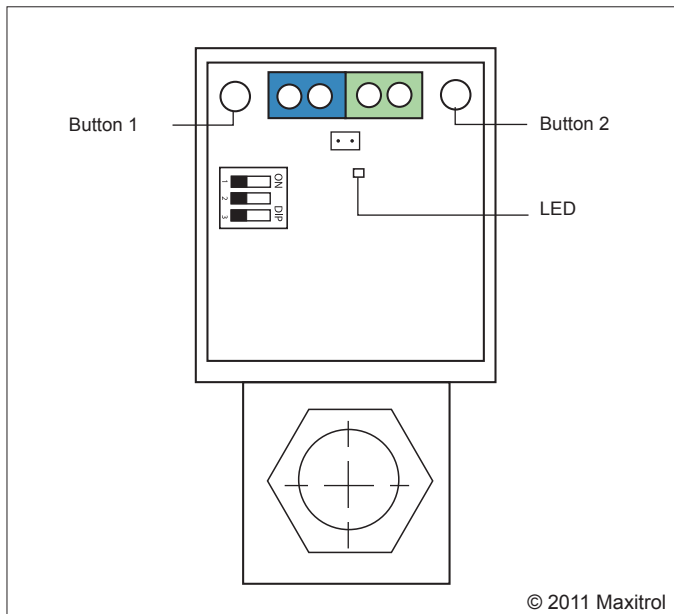

Figure 4: EXA STAR Modulating Valve Series Adjustment Controls
The valve has two (2) buttons and a communication LED for the user interface. The buttons are used to set the valve for high and low fire settings (see Figure 4, page 4).
The EXA STAR modulating valve series has two (2) buttons and a communication LED for the user interface. The buttons are used to set the valve for high and low fire settings (see Figure 4).